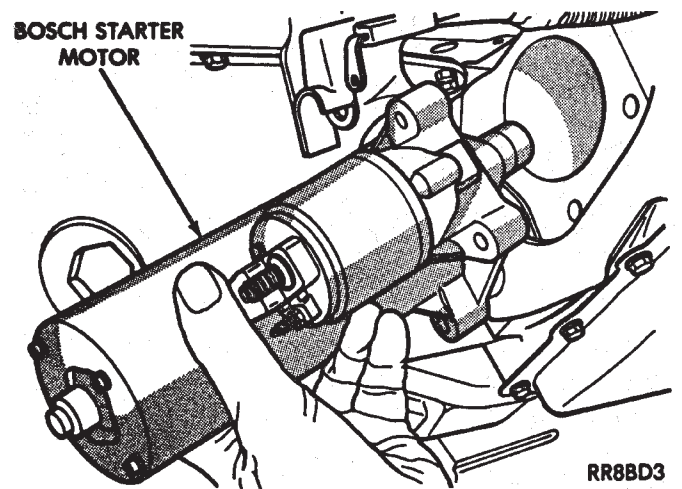
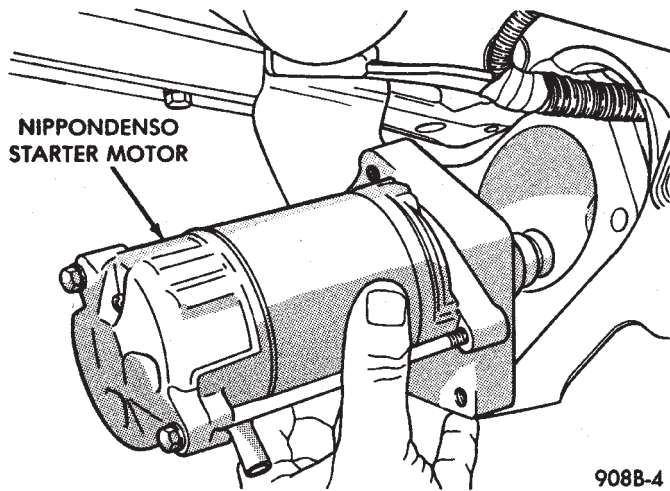

Fig. 8 Remove/Install Starter—Bosch—Typical
Fig. 9 Remove/Install Starter—Nippondenso—Typical
(4) Remove starter from vehicle (Bosch, Fig. 8) (Nippondenso, Fig. 9).